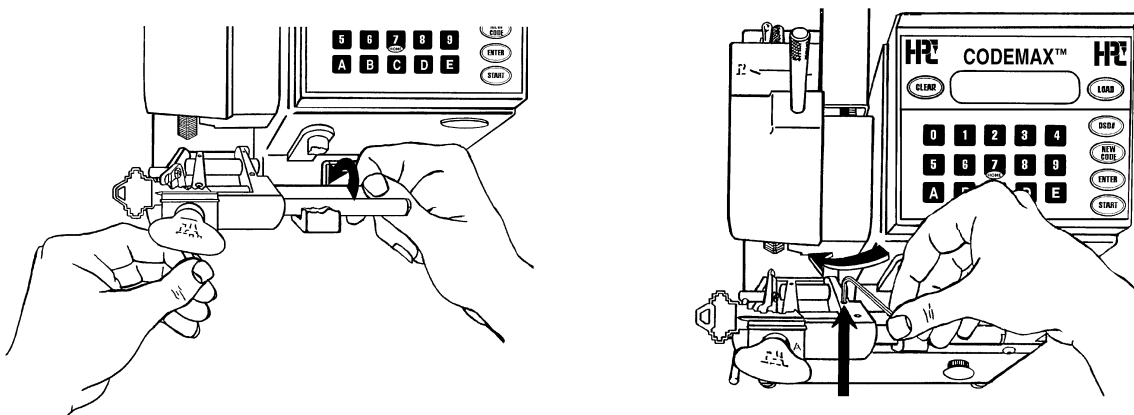

Fig. 2
- 9) Loosen the set screw that holds the Turn Bar in place in the Pivot Arm. See Fig.2. Swinging the Shoulder Gauge should also rotate the Turn Bar.
- 10) Swing the key Shoulder Gauge down to release the Turn Bar. Then, firmly gripping the right end of the Turn Bar so that it remains stationary, swing the key Shoulder Gauge up against the key. The Shoulder Gauge should be just touching the shoulder of the key. Now, without rotating the Turn Bar further, tighten the set screw that holds the Turn Bar (see Fig. 2).